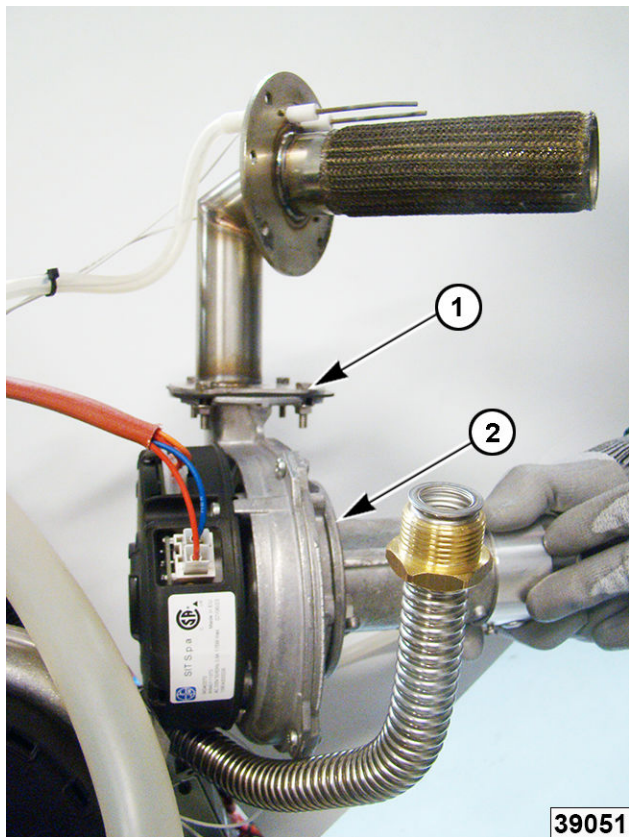

Fig. 110
5. Remove blower mounting screws (1, Fig. 110) from burner and venturi (2, Fig. 110).